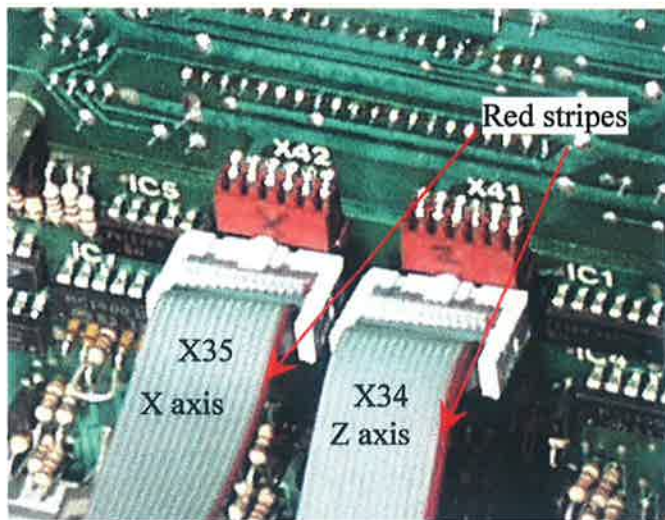

Fig 8 Attaching the WELturn controller ribbon cables
- 22) Refer to Fig 8. On the stepper motor driver pcb, connector X34 is for the Z axis motor and connector X35 is for the X axis motor.
- 23) Connect the two ribbon cables as shown in Fig 8. *Note the positions of the red stripes on the ribbon cables.* The unused holes in the sockets on the ribbon cables have been blocked deliberately to avoid misconnection: do not unblock them.